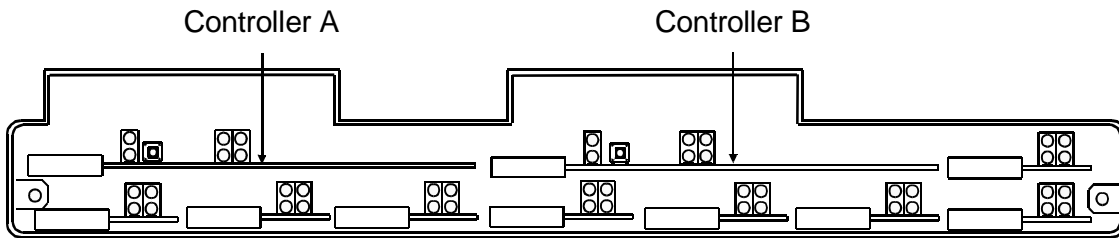

Figure 6-34. Location of Controller Cards
1. Locate Controller B card slot (see Figure 6-34).